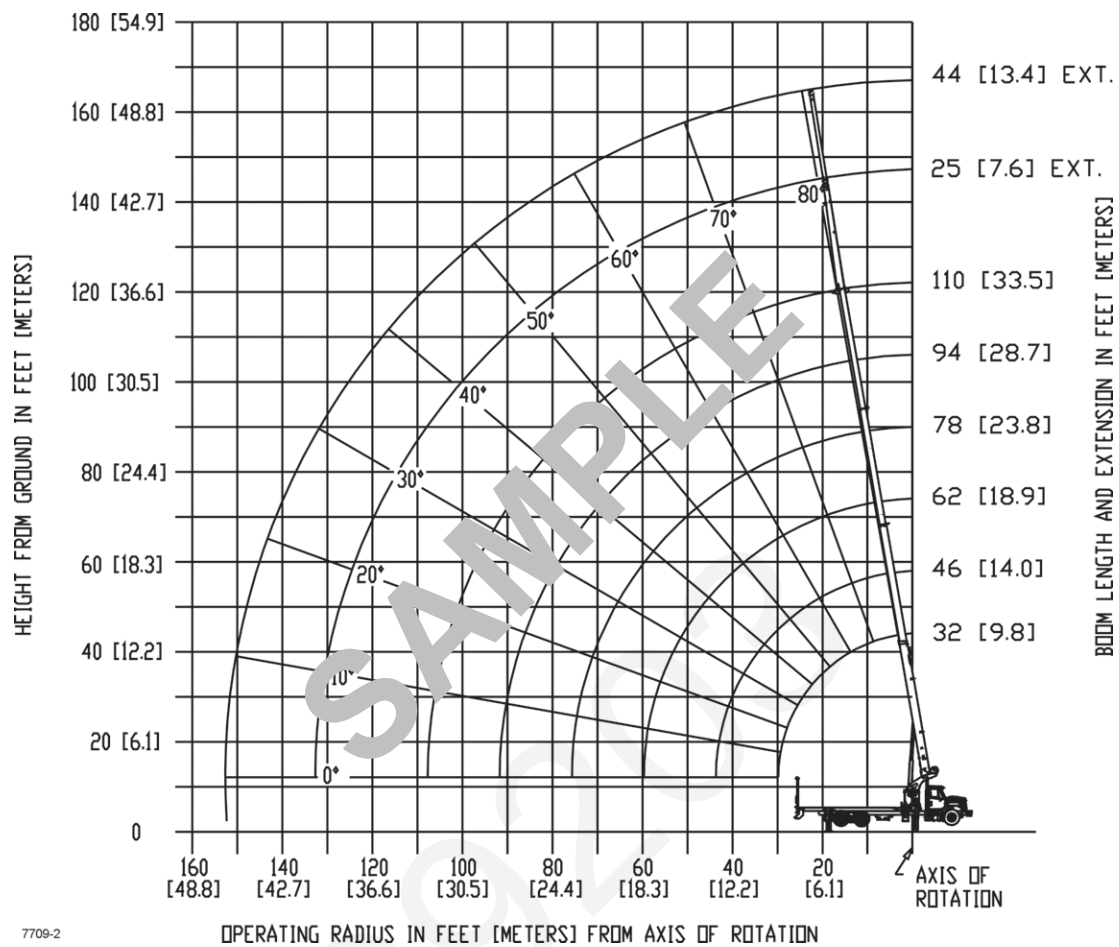

FIGURE 3-8
- **Range Diagram** - The range diagram (Figure 3-8) shows the operating radius and height of the unloaded boom nose at all boom lengths and angles. It should be used as a guide to position unloaded loadline and to determine to approximate height to which the load can be lifted.
- The range diagram (Figure 3-8) shows the operating radius and the height from horizontal of the unloaded boom.